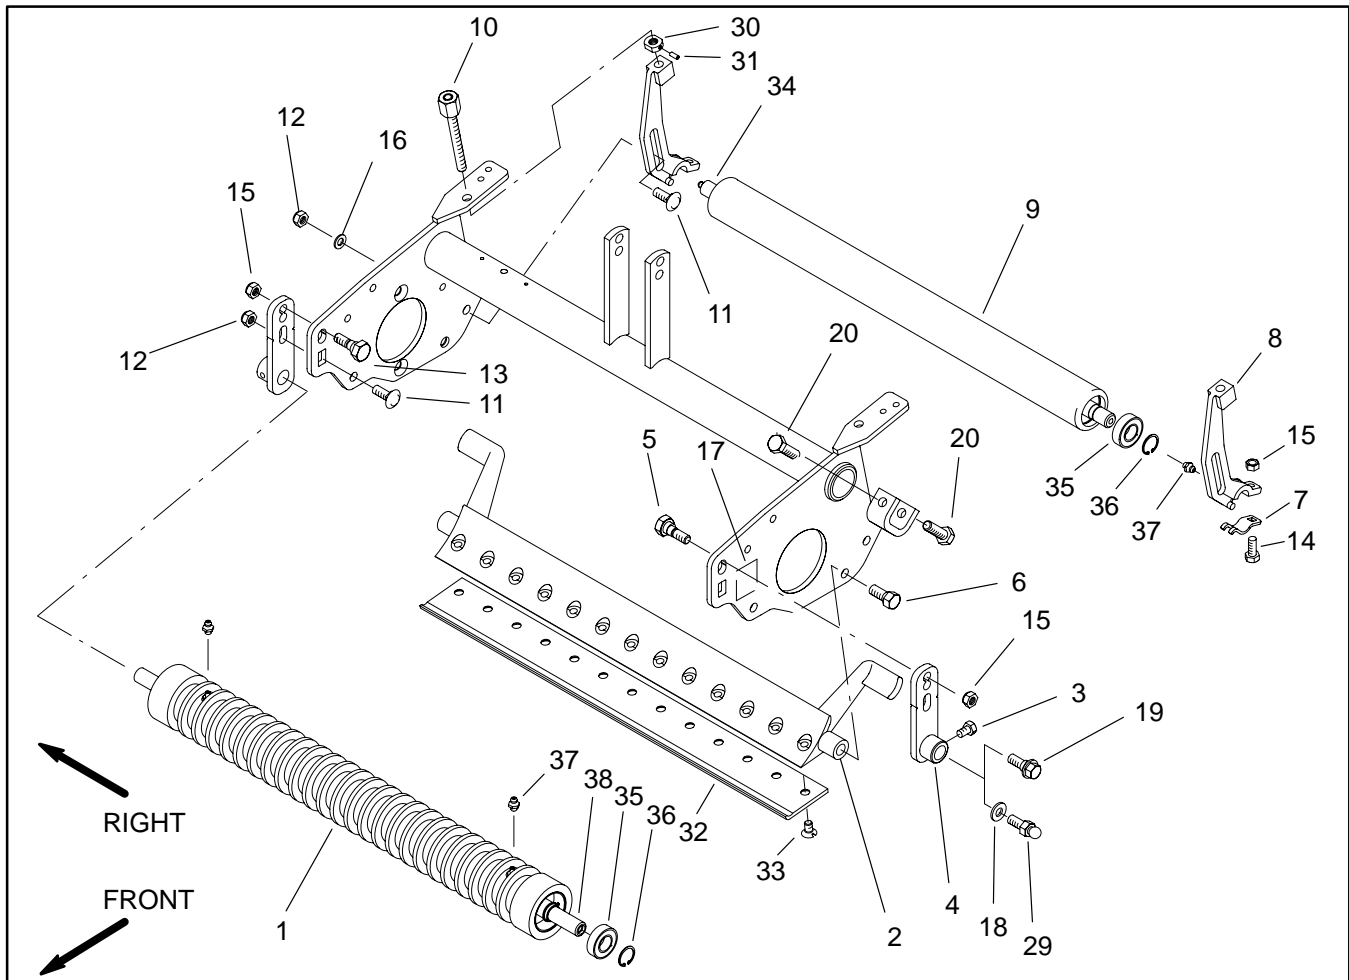
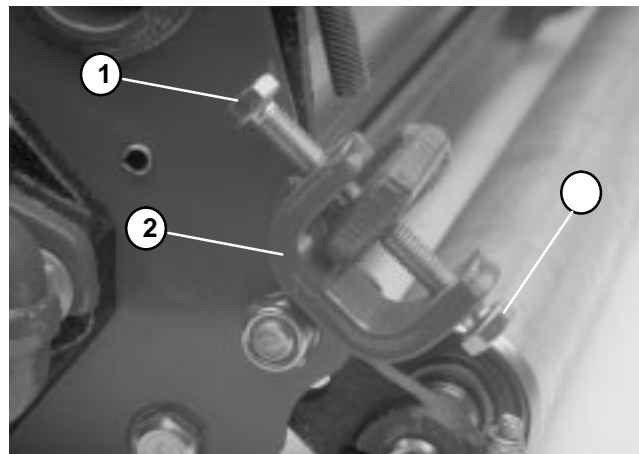

Figure 33
Figure 34
**Note:** The top hex head screws should remain in the adjustment brackets. This will allow for an easier adjustment of the bedbar when it is reinstalled (Fig. 34).
3. Remove bottom hex head screw from each bedbar adjustment bracket located on both sides of the frame (Fig. 34).
4. Remove both wheel bolts (6) from each end of the bedbar (2) and frame (Fig. 33).
5. Remove bedbar (2) from the cutting unit (Fig. NO TAG).
1. Apply antiseize lubricant to the threads of both wheel bolts (6) (Fig. 33).
2. Position bedbar (2) to the cutting unit. Insert wheel bolts (6) through the frame and screw into the bedbar (Fig. 33).
3. Torque both wheel bolts (6) from 20 to 40 ft-lbs ( 2.8 to 5.5 kg-cm).
4. Start bottom hex head screws into the bottom of the adjustment brackets. Keep bedknife away from the reel while running up both screws to contact the bedbar ears (Fig. 34).